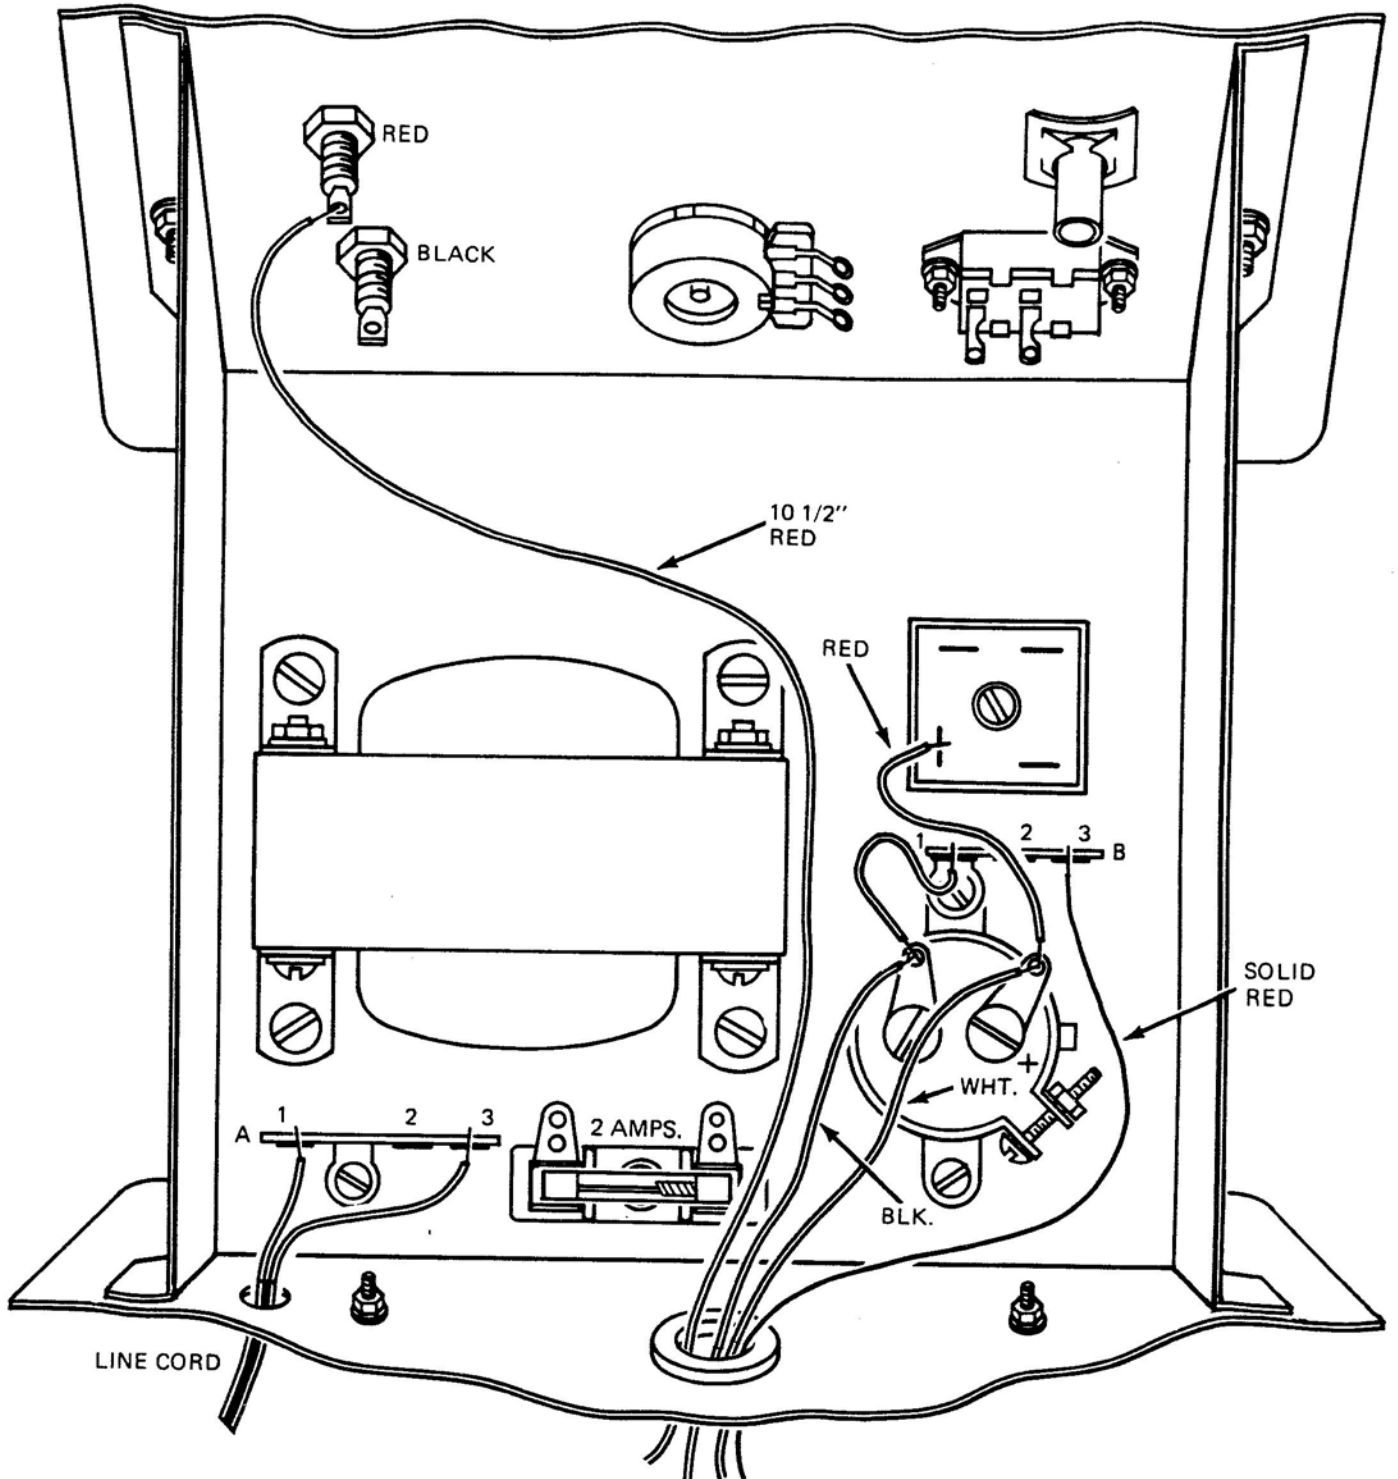

Fig. 11. Wiring the back panel to the chassis.
(1) Place the power supply chassis on your workbench with the rear of the chassis toward you. With the rear of the back panel facing you (the side on which you have the heat sink mounted), you will find a 3/8" hole to the left of the heat sink. Slip the line cord through this hole. Connect one lead from the line cord to terminal 1 (S2) of the 3-lug terminal strip A, and the other lead to terminal 3 (S2) as shown in Fig. 11
(2) Connect the solid red wire from the voltage regulator to terminal 3 (S3) of the 3-lug terminal strip B